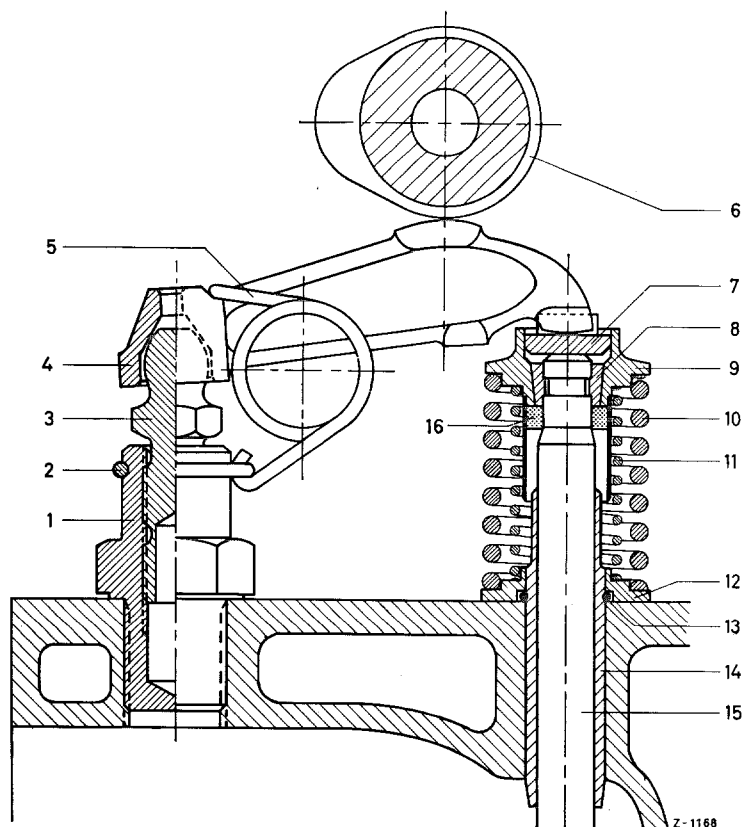

Fig. 01-4/20 a
10. Unscrew air vent line (7) on water pump and on cylinder head.
**Note:** On model 190 SL with the new, further modified valve controls (Fig. 01-4/20 a) the valve stem seal and the removal of the rocker arms differ as described below. Rocker arms for inlet and outlet valves are of similar design.